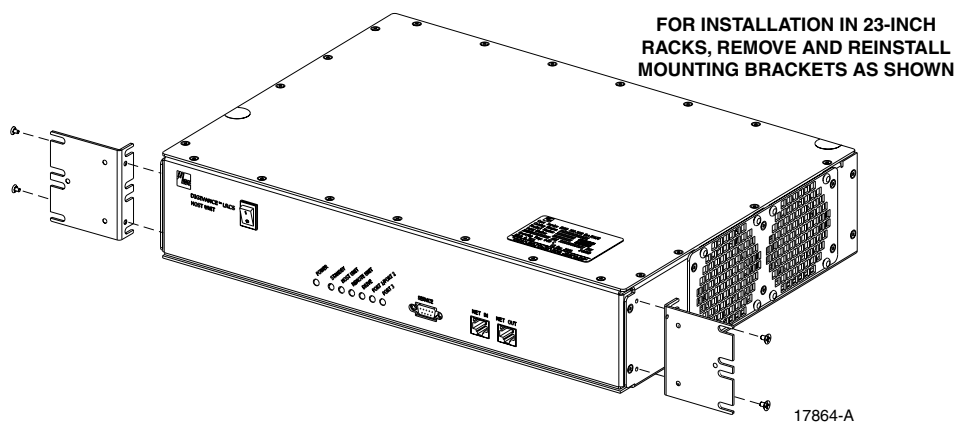

Figure 3-2. Installing the Mounting Brackets for 23-Inch Rack Installations
3. Reinstall both mounting brackets so the long side of the bracket is flush with the HU front panel as shown in Figure 3-2. Use the screws removed in step 2 to re-attach the brackets to the HU chassis.